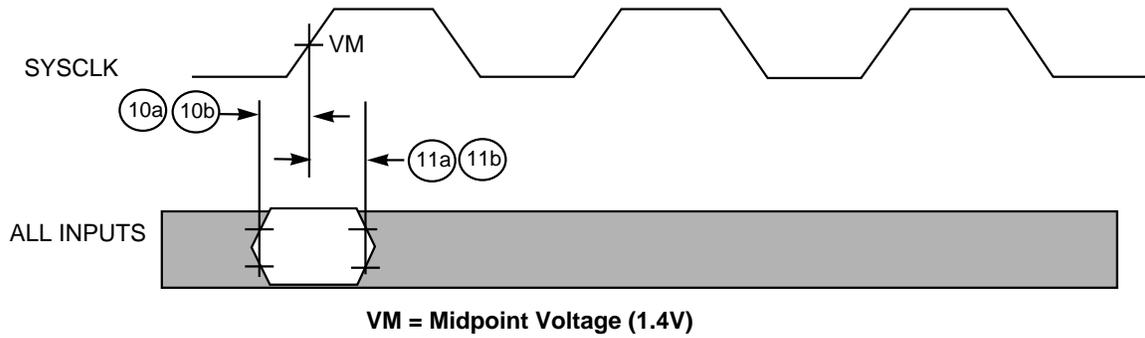
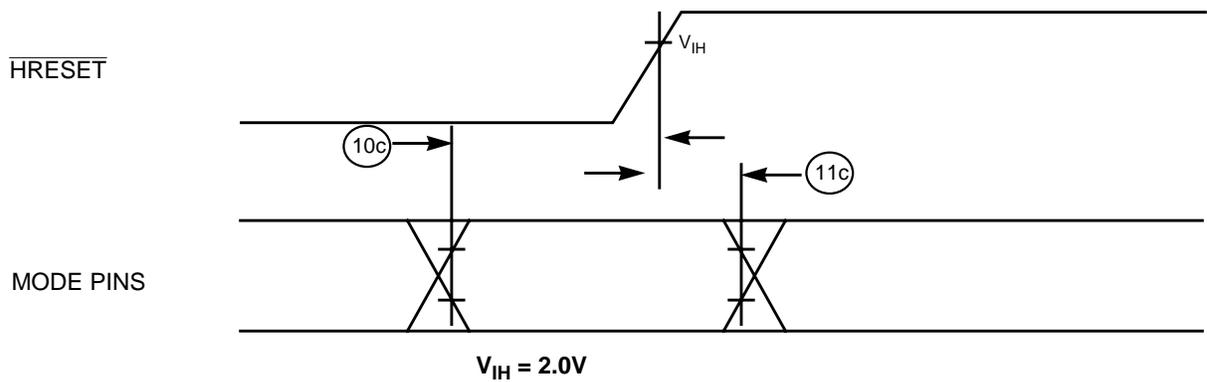

Figure 3. Input Timing Diagram
Figure 4. Mode Select Input Timing Diagram
Table 8 provides the 60X bus input AC timing specifications for the PPC740 and PPC750 as defined in Figure 3 and Figure 4 . Input timing specifications for the L2 bus are provided in Section 3.1.2.5, “L2 Bus Input AC Specifications”.
1. Input specifications are measured from the TTL level (0.8 to 2.0 V) of the signal in question to the 1.4V of the rising edge of the input SYSCLK. Input and output timings are measured at the pin (see Figure 3 ).
4. The setup and hold time is with respect to the rising edge of  $\overline{\text{HRESET}}$  (see Figure 4 ).
Figure 3 provides the input timing diagram for the PPC740 and PPC750.
Figure 4 provides the mode select input timing diagram for the PPC740 and 750.